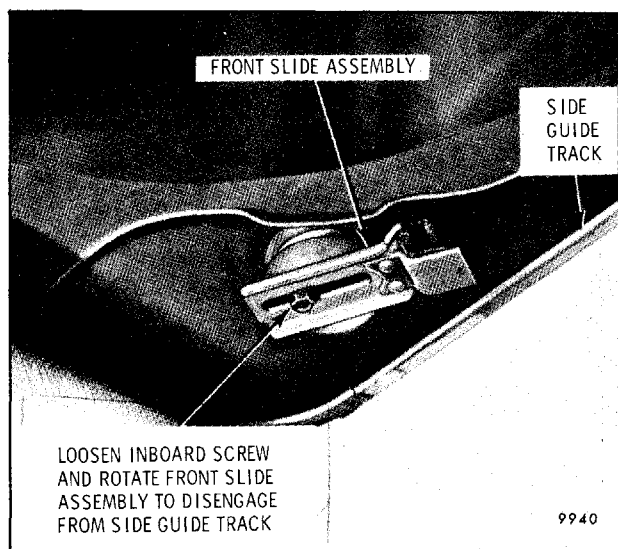

Fig. 8-109-Front Slide Assembly Disengaged
7. Loosen inboard screws and rotate each slide assembly inboard to clear side guide rail (Fig. 8-109).